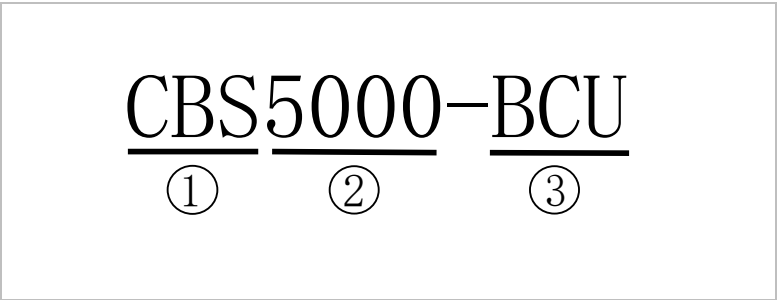

Figure 3-3 Battery control unit model identifiers
3. Mark the holes for fixing the battery module and BCU with a marker according to the dimensions shown in Figure 3-3.